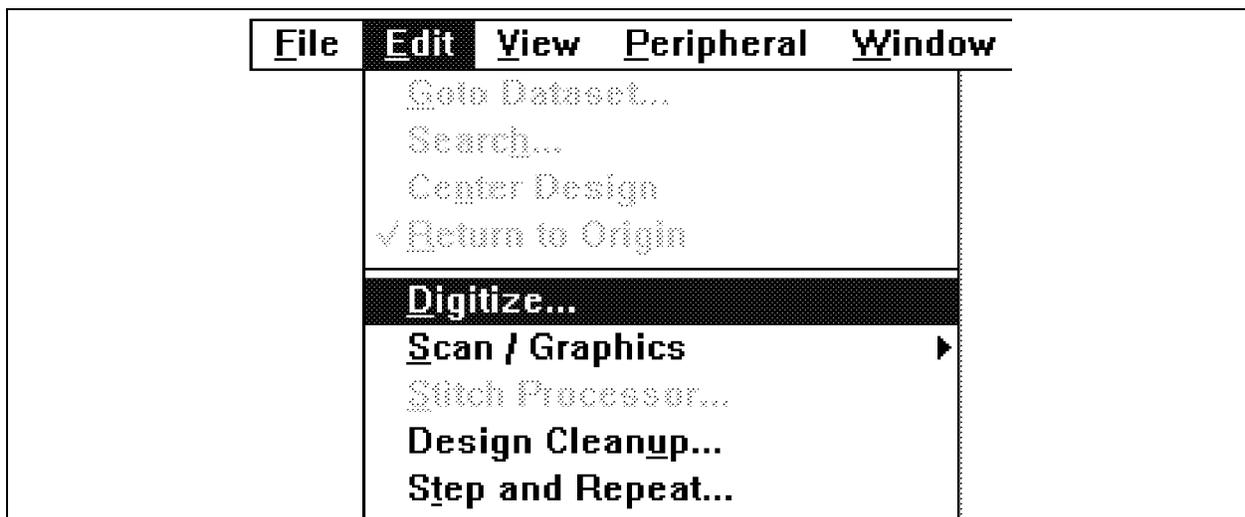
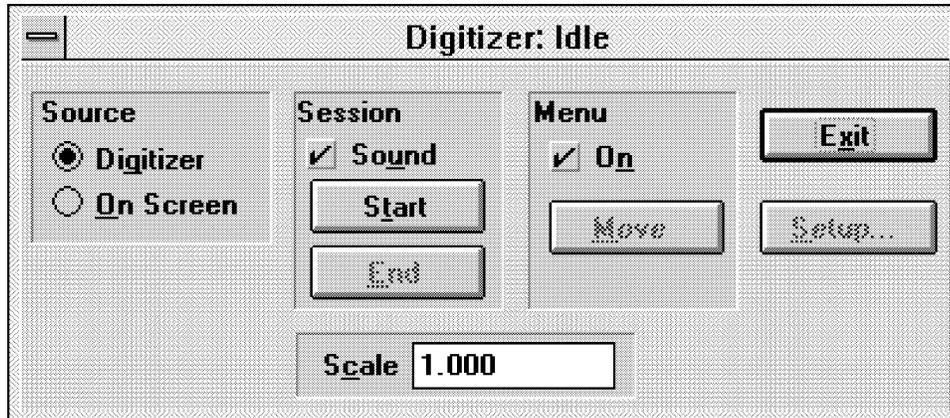

Figure 3-4
Figure 3-5
4. Click on the "Digitize" menu item in the drop-down menu that is now on the screen (see Figure 3-4). A dialog box will come onto the screen that is entitled "Digitizer: Idle" (see Figure 3-5).